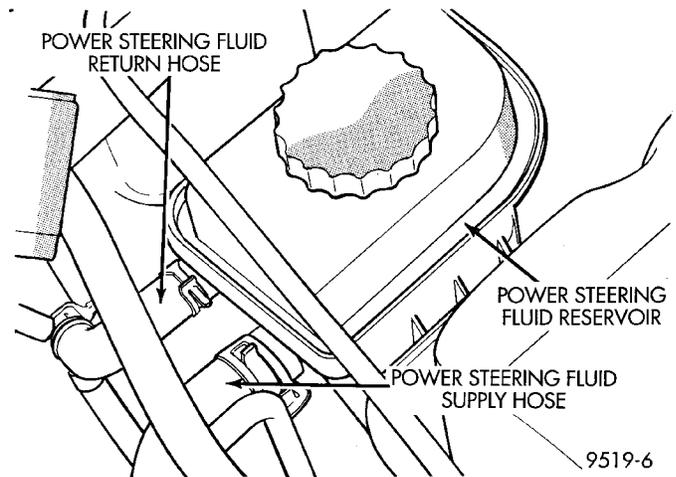

Fig. 18 Power Steering Return Hose At Reservoir
(6) Remove hose clamp, attaching power steering return hose to power steering fluid reservoir (Fig. 18).
(2) Install power steering return hose on power steering fluid reservoir fitting. Install hose clamp on power steering return hose at power steering fluid reservoir (Fig. 18). **Be sure hose clamp is**